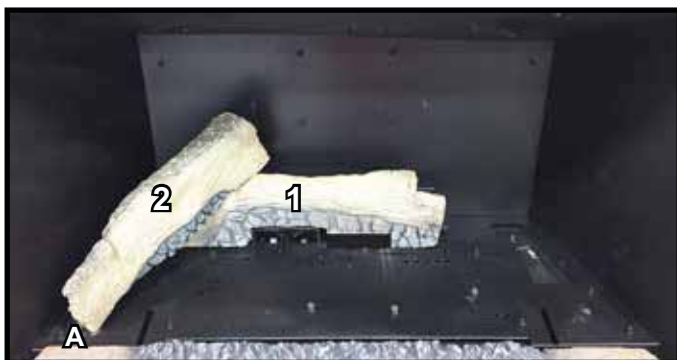

Figure 4. Log #2 Installed
**LOG #2:** With the burnout area facing right, place the center of the small end of Log #2 against log pin A. Place the big end of the log on the flat spot of Log #1. See Figure 4.